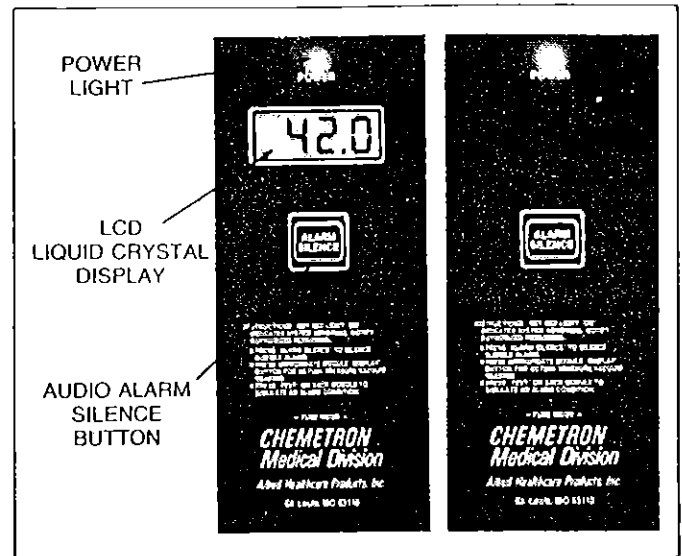

FIG. 2 — LCD AND NON LCD DISPLAY MODULES
There are two types of Display Modules. (See Fig. 2). Both contain the power-on indicator and the audio alarm silencer button. A Liquid Crystal Display (LCD) differentiates the two modules. The LCD module is used only with the back box containing copper pigtailed. The non-LCD module is used exclusively with the back box that does not contain copper pigtailed.
4. Alarm Silence (See Fig. 2) — When in an alarm condition, the button on the display module will cancel the audio alarm tone and the red light beside the gas or vacuum name. Note that the vertical LED will remain in the red alarm position until the fault is corrected. As long as no other module is in the *alarm*, *display*, or *test* mode, the module *in alarm* will remain in the LCD display. The alarm condition causes the display to be "commanded" for that module without the operator having to press the display button. If two or more alarms have occurred, the yellow light will move from module to module displaying each service that is in alarm. This is done on a timed sequence in which the modules in alarm condition will alternately be in display.
The display module (See Fig. 2) contains the power ON indicator light for the entire system. Pushing the alarm silence button will cancel the audio signal input received from any other module. The audio speaker is contained behind the display module.